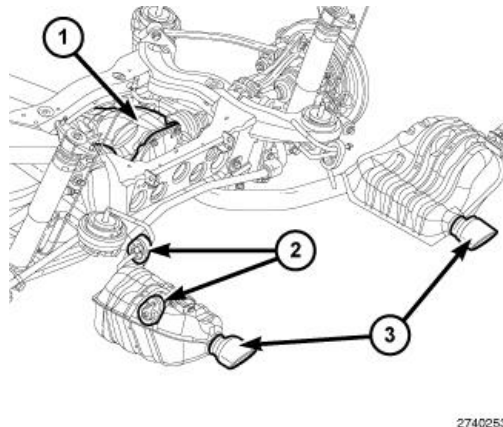

Figure 8 – Rear Exhaust Isolators
15. Remove the rear isolators (2) (Figure 8).